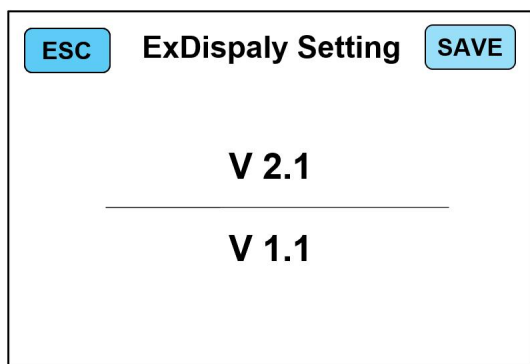

Figure 68
4) Click "3. Exdisplay version" to enter the external display software version setting interface, as shown in Figure 68 below.